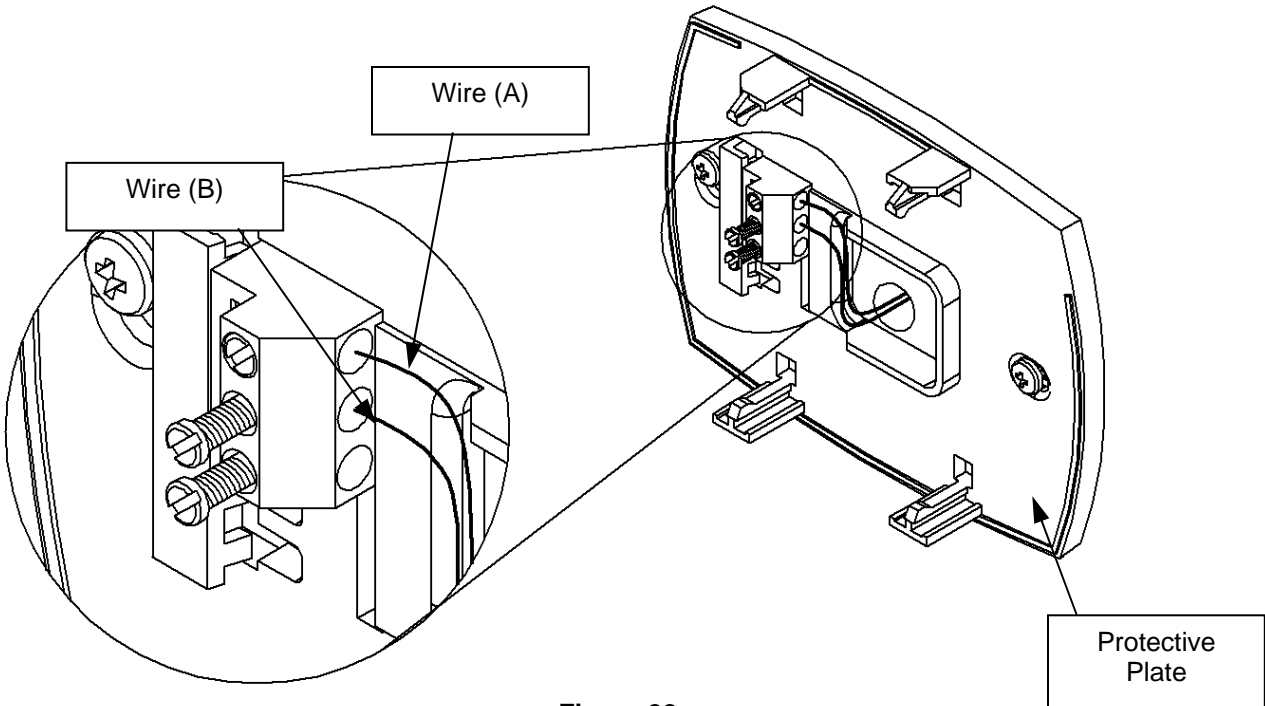

Figure 22
Step 17: Using wire (B), insert one end into the middle terminal location on the Protective Plate. This is shown in Figure 22.